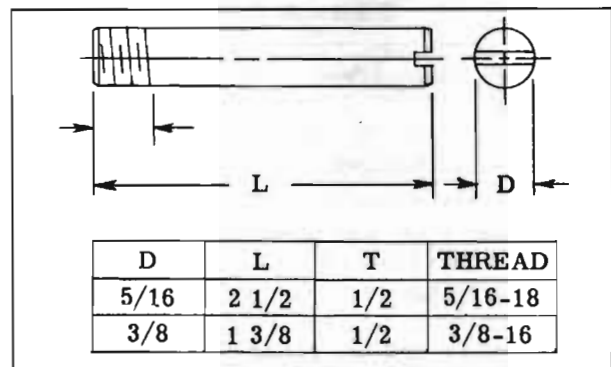
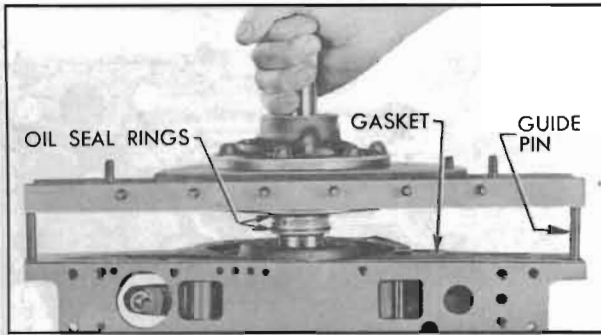

Figure 5-87—Guide Pins
Figure 5-95—Installing Reaction Shaft Flange and Gasket
6. Prepare two $\frac{5}{16}$ "x $2\frac{1}{2}$ " guide pins and two $\frac{3}{8}$ "x $1\frac{3}{8}$ " guide pins with screwdriver slot in plain end, as shown in figure 5-87. These will be used for alignment of parts during assembly.
1. Install a $\frac{5}{16}$ " guide pin (fig. 5-87) in accumulator bolt hole at each end of flange on transmission case. See figure 5-95.
4. Make certain that oil seal rings are on flange hub, then install flange assembly on case using care to avoid damaging oil seal rings. See figure 5-95.
2. Install two $\frac{5}{16}$ " guide pins (fig. 5-87) in transmission case to guide each end of servo body, and install servo body spacer plate gasket over guide pins.
13. Install a $\frac{5}{16}$ " guide pin (fig. 5-87) at each end of transmission case and install a new oil pan gasket over guide pins. Install oil screen.